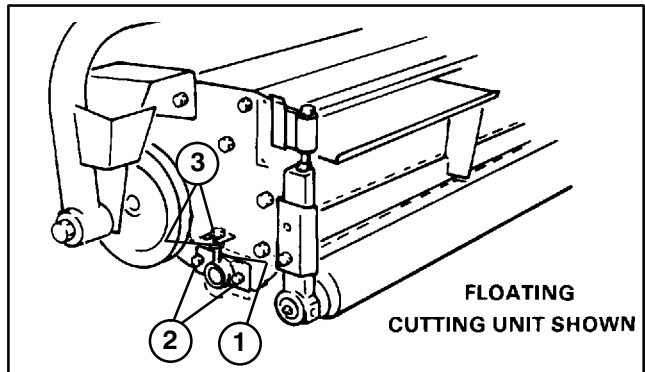

Figure 22
4. Loosen (2) carriage bolts on bedbar adjuster (Fig. 22).